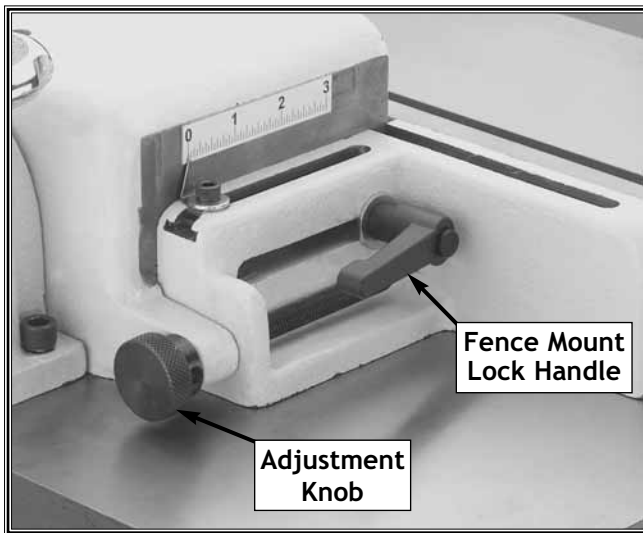

Figure 42. Fence mount lock handle.
1. Loosen the locking handles shown on the sides of the fence mount in Figure 42.